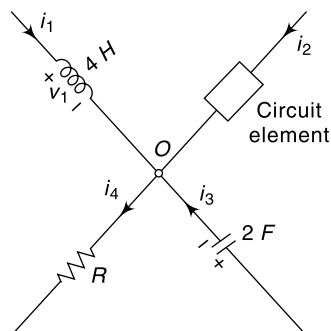

Fig. 4.31 Circuit of Ex. 4.18
4.18 In the part of the electrical network, shown in Fig. 4.31, find v_1 . Assume $i_2 = (10e^{-3t}) \text{ A}$, $i_4 = 6(\sin t) \text{ A}$ and $v_3 = (8e^{-3t}) \text{ V}$.
Applying KCL at the node '0' in Fig. 4.31,